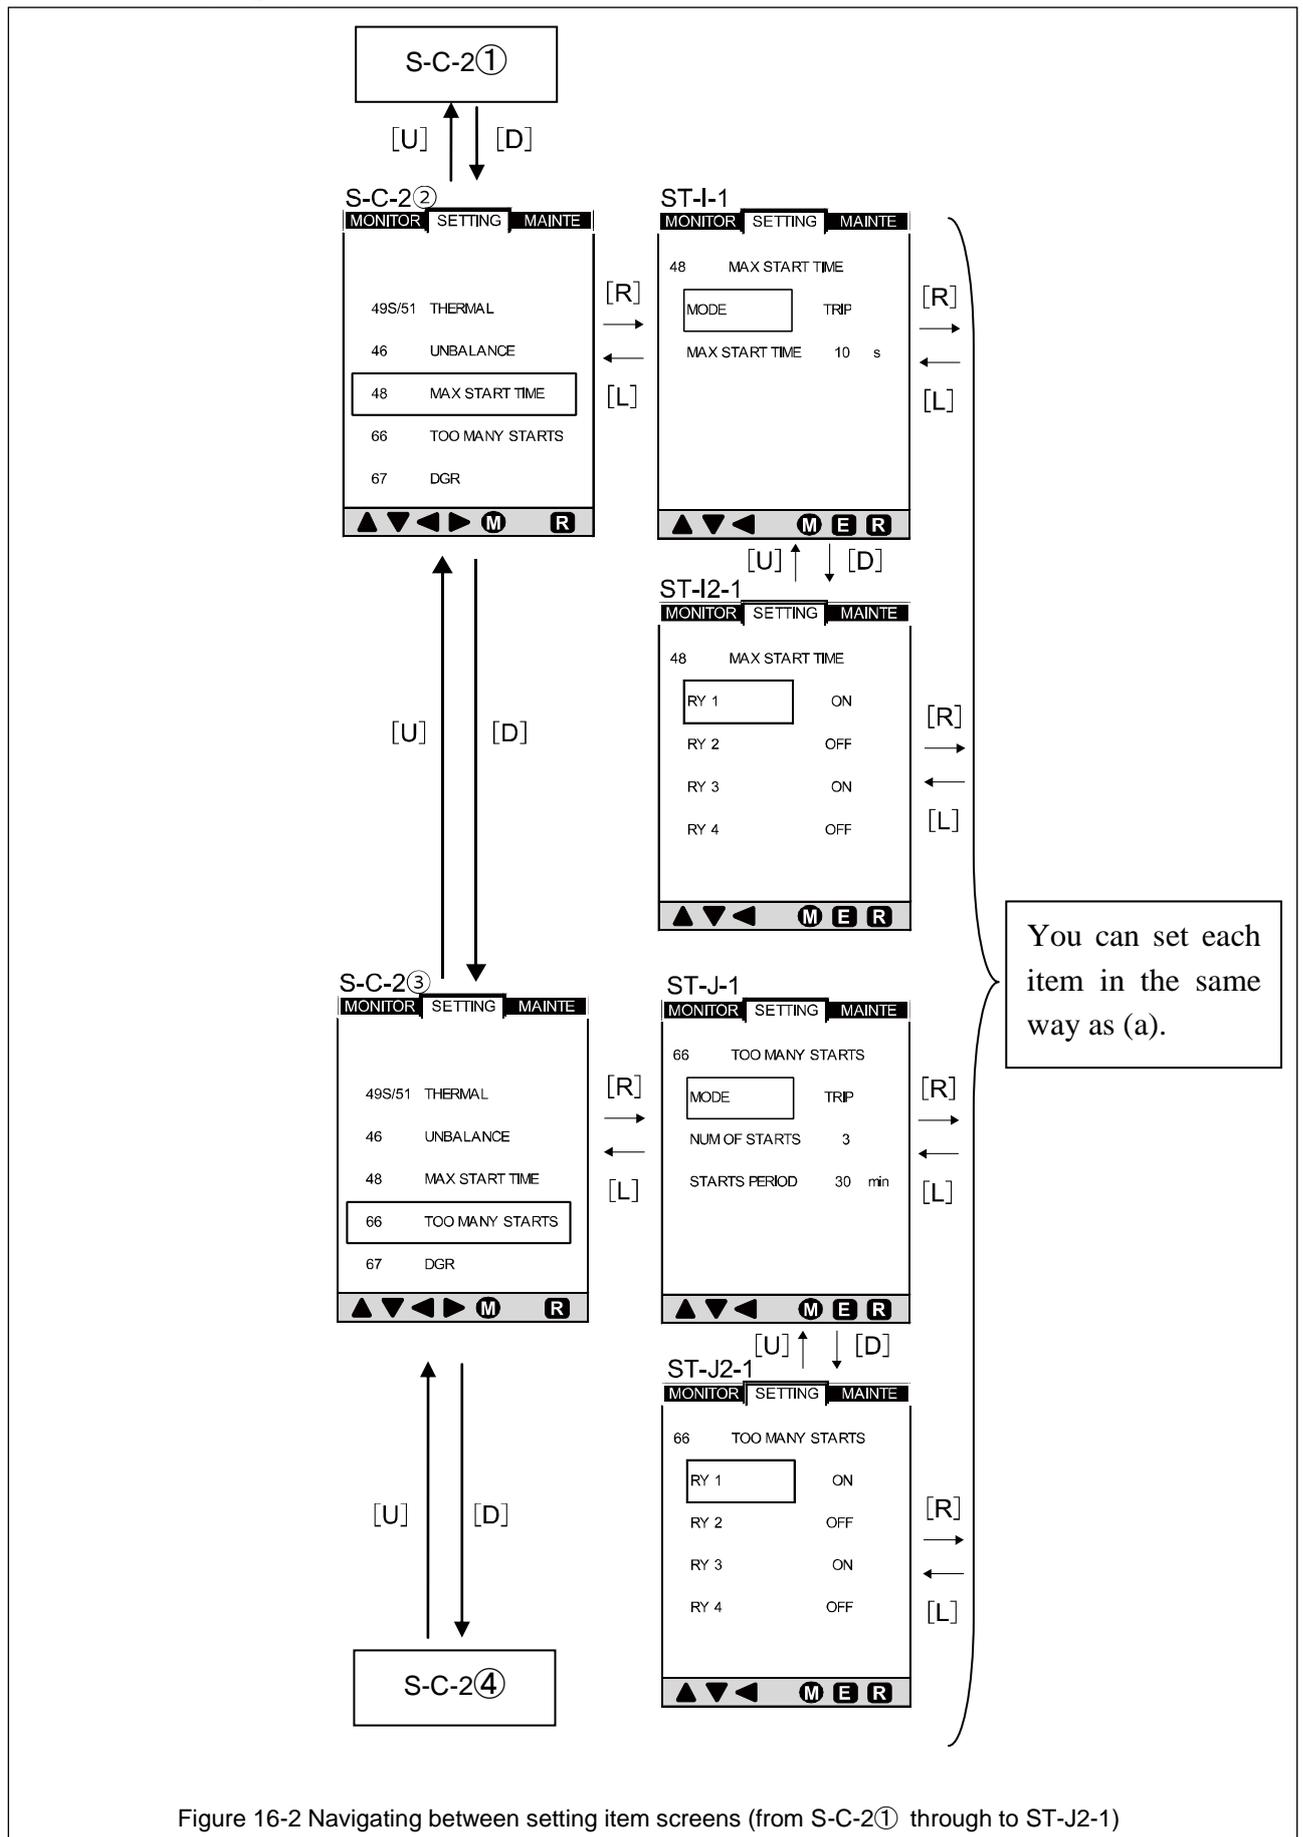

Figure 16-2 Navigating between setting item screens (from S-C-2① through to ST-J2-1)
Figure 16-2 shows how to navigate between setting item screens (from S-C-2② through to ST-J2-1). See Tables 11-2 and 11-3 for items that are actually displayed on the screen.